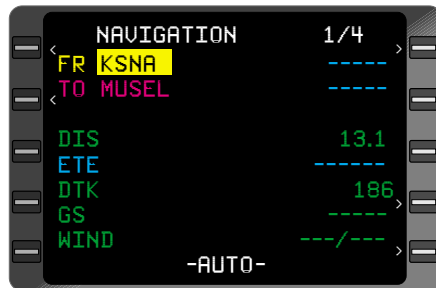

Figure 3-19
6. **DIS, DTK** - CHECK for reasonableness. (Figure 3-19)